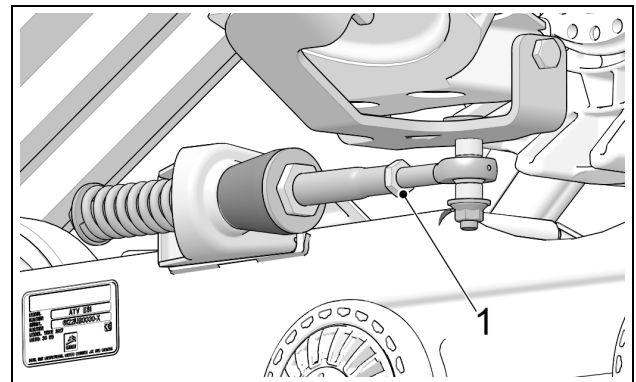

Figure 15
- Re-tighten jam nut (1) to 40 N·m [30 lb-ft] of torque when adjustment is complete. Figure 15.